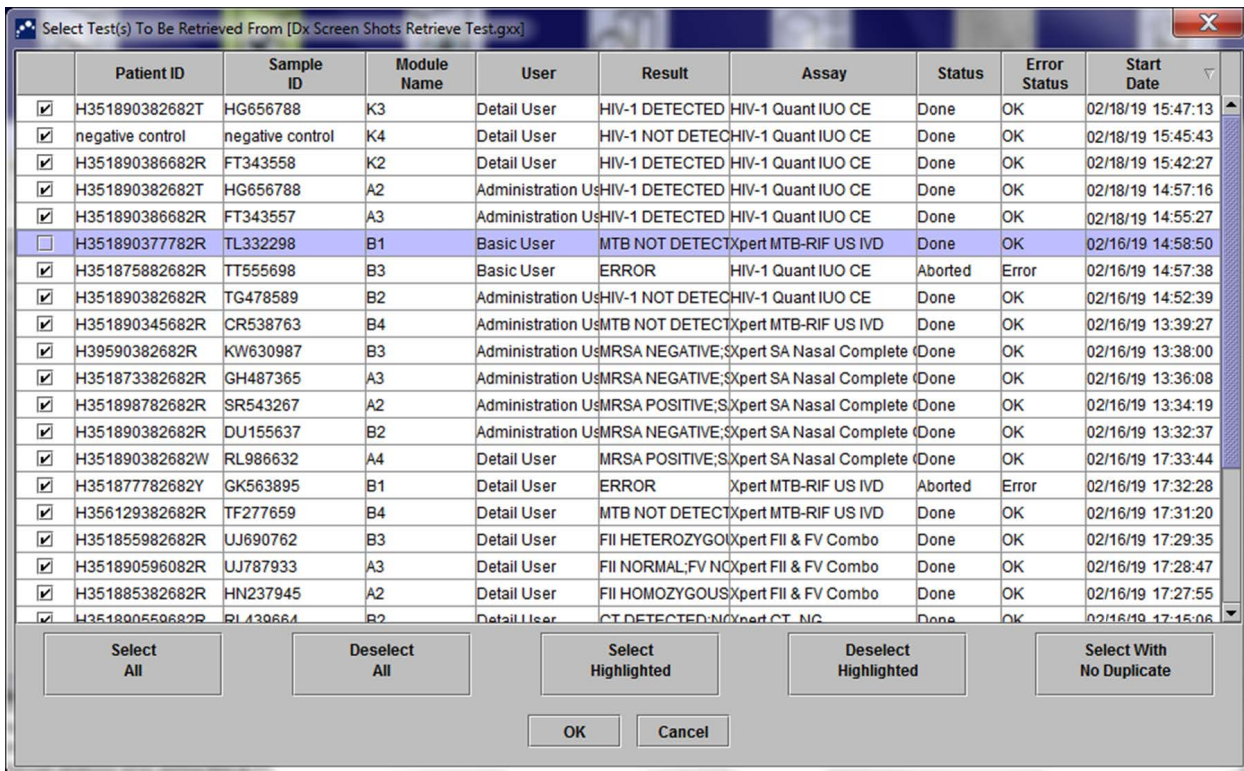

Figure 5-66. Select Test(s) to Be Retrieved Dialog Box
3. The Select Test(s) To Be Retrieved From dialog box appears (see Figure 5-66). The tests that already exist in the current database appear in red text.